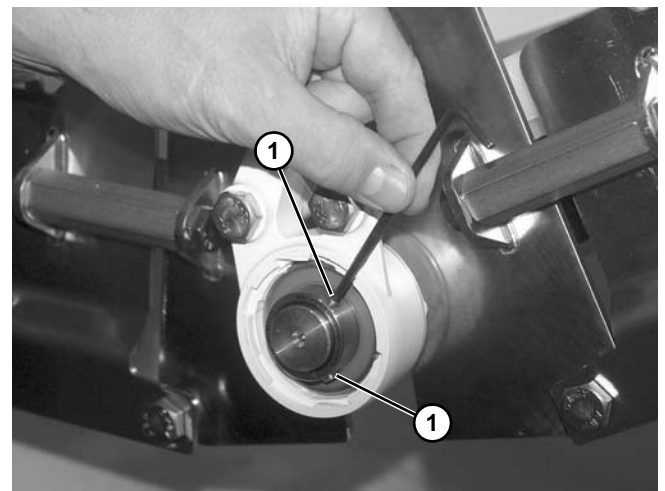

Figure 186
2. Using a hex key wrench, loosen two set screws (**Figure 186, item 1**) on bearing.